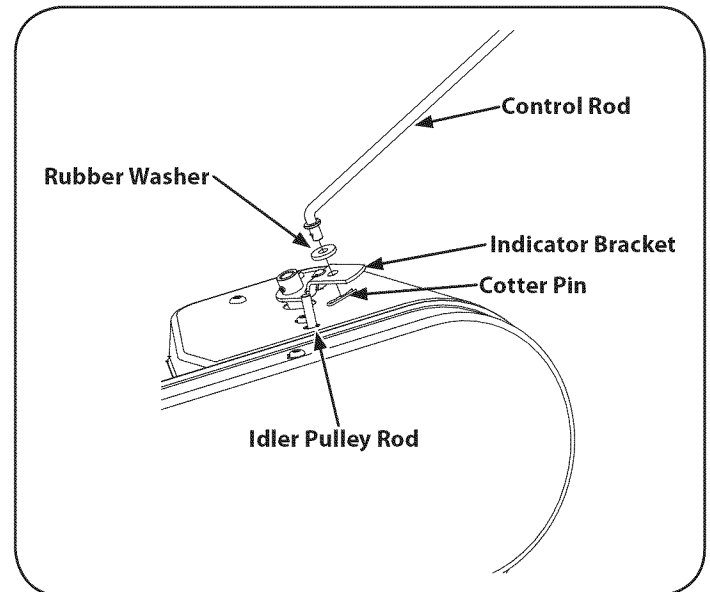

Figure 7
5. Remove the hairpin clip and spring washer from the idler pulley rod. See Figure 7.